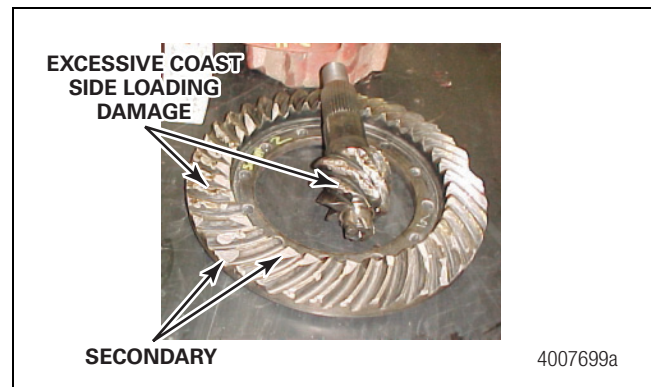

Figure 4.61
**Primary Damage:** Gear teeth on the pinion and ring gear are cracked or broken at the root with damage originating from the coast side of the gearing. Secondary damage such as broken gear teeth is present from loose parts entering the gearing. Figure 4.61.